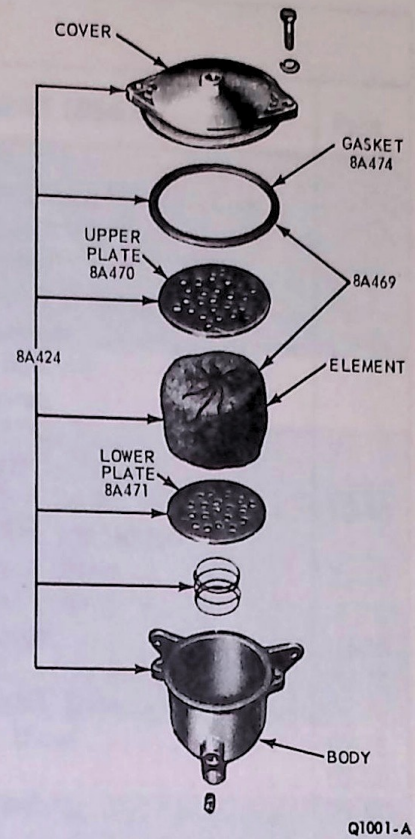

FIG. 3 Corrosion Resistor
1. Close the shut-off valves on the inlet and drain lines of the Filter assembly. Unscrew the drain plug at the bottom of the housing (Fig. 3).